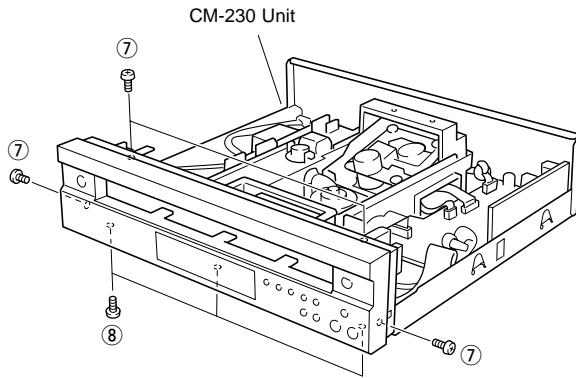

Fig. 3
- b. Remove 4 screws (⑦) and 3 screws (⑧) as shown in Fig. 3.
- c. Remove the Front Panel Unit as shown in Fig. 3.